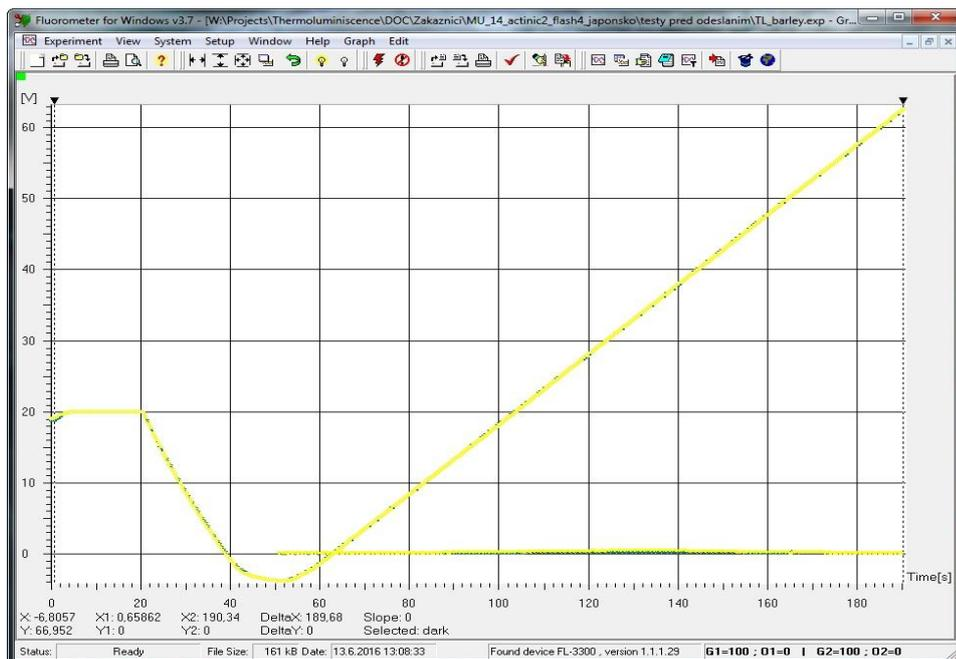

Fig. 37 Graph showing the experimental data – temperature and thermoluminescence curve.
- The Graph window presents the experimental data (Fig. 37).